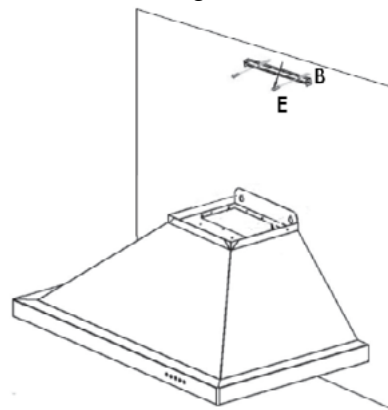

Figure 3
4. Mount the top chimney mounting bracket near the ceiling by drilling two holes, tapping 2 anchors (B) into the wall and then securing with 2 screws (E). Make sure the chimney bracket is centered and level above the hood. *Figure 3*